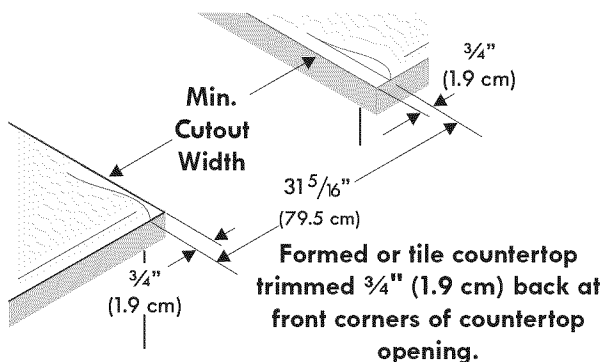

Figure 7
- **Formed front-edged countertops** must have molded edge shaved flat $\frac{3}{4}$ " (1.9 cm) from each front corner of opening (Fig. 7).
- **Tile countertops** may need trim cut back $\frac{3}{4}$ " (1.9 cm) from each front corner and/or rounded edge flattened (Figure 7).